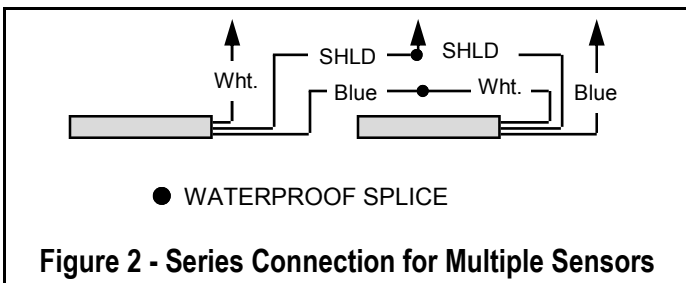

Figure 2 - Series Connection for Multiple Sensors
3. If the driveway is a two-car driveway, two sensors wired in series, on each side of the driveway, may be necessary for complete coverage. (Figure 2)
1. Connect the sensor(s) to the processor. If more than one sensor is to be used (up to 5 sensors can be supported by one processor), connect them as shown in Figure 2.
4. Set the "GAIN" control fully counter-clockwise to minimum gain. Drive past the sensor(s) at the slowest probable vehicle speed. Gradually increase sensitivity ("GAIN") until the sensor(s) consistently detects vehicle movement as indicated by relay closure. Be sure the detection range extends to the farthest edge of the desired protected area. **Do not use more sensitivity than is necessary to insure reliable vehicle detection.** If the detection area is too small, enlarge it by adding one or more sensors in series (see Figure 2). If the detection area is too large, move the sensor farther from the vehicle path.